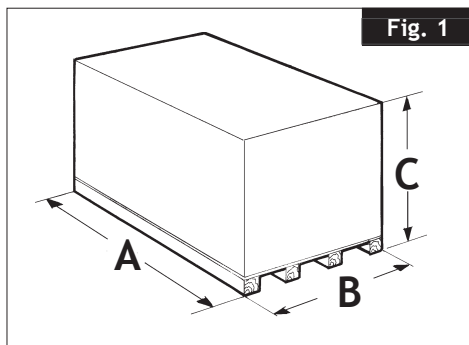

Fig. 1
- Packaging dimensions: (fig. 1).
- Depth (A).....2,400 mm
- Width (B).....2,200 mm
- Height (C).....1,300 mm